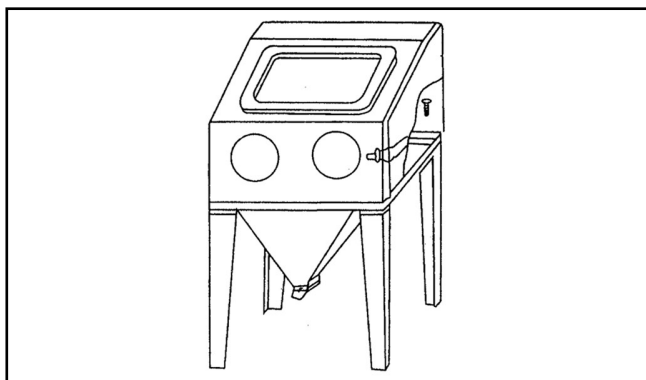

Figure 3. Cabinet and frame.
3. Set the cabinet onto the hopper and screen assembly, and secure it with (12) M6-1 x 40 screws and nuts (**Figure 3**).